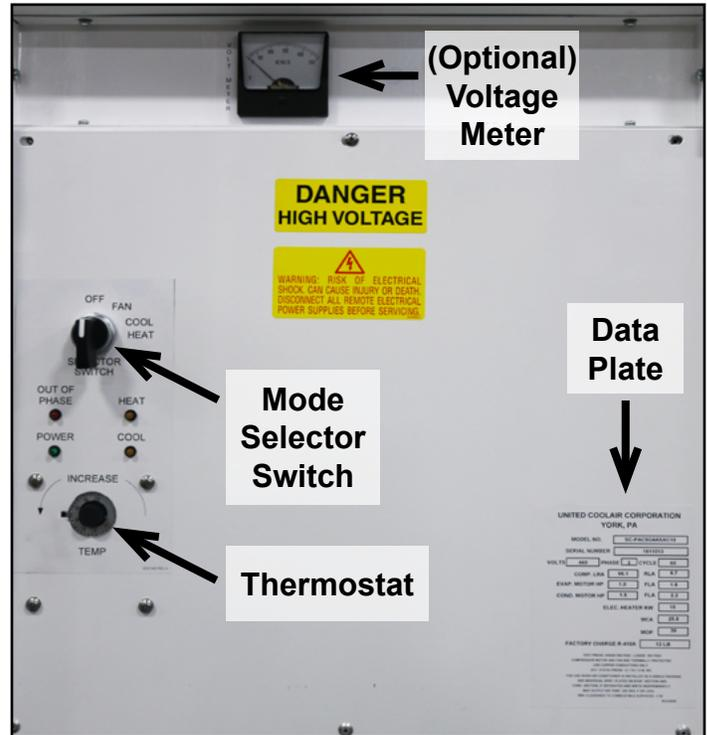

Figure 1 – Data Plate
Upon receiving the unit, inspect for damage to the unit structural interior and exterior components that may have happened during transit. Immediately notify the carrier of damage to the unit. Verify the unit is the correct unit ordered by looking at the unit’s data plate. Figure 1 – Data Plate is located on the right hand side of the electrical box section. The main power source must be capable
2. This unit also has an optional Voltage Meter which is beneficial to the setup and operation of the unit. Refer to Figure 1 previously.
- (a) Connect the power cable to the correct power source as verified by the unit's data plate shown in Figure 1 or at the Camlock connection fittings.